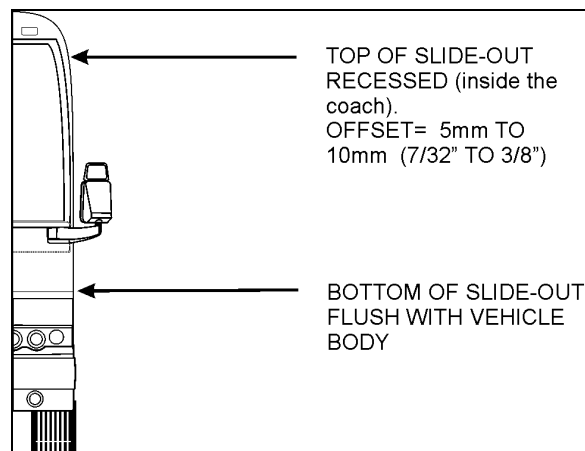

FIGURE 23 : TILT ADJUSTMENT
5. Using levelling screw 3, adjust the tilt in order to have the top of the slide-out recessed between 5mm and 10mm (7/32” and 3/8”) (see FIGURE 23).